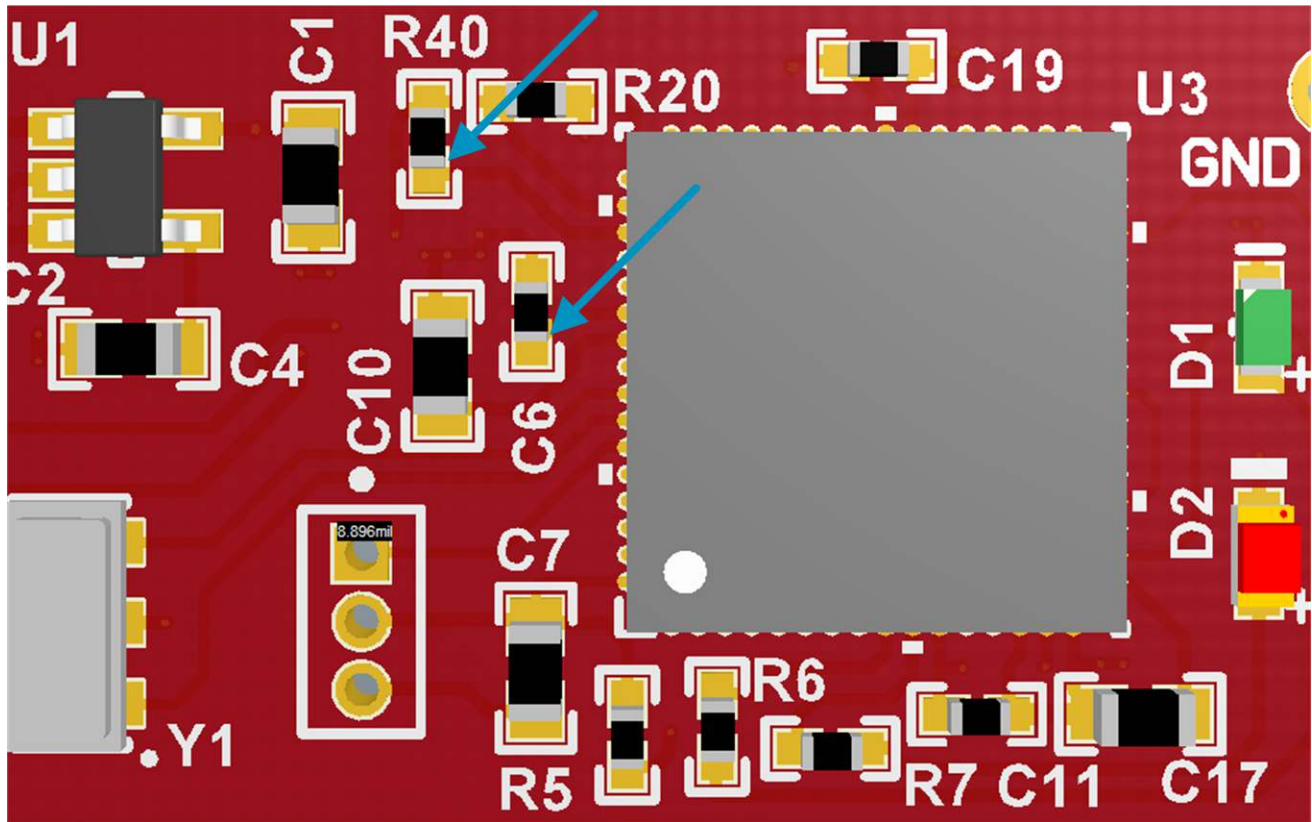

Figure 15. Short a Wire at these Locations
1. Short the two points as shown in Figure 15